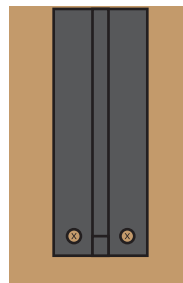

Figure 3
- 1.** Using the bracket's lower leg as a template, mark and drill four (4) pilot holes per bracket (see Figure 3).
- 2.** Without fully tightening the screws, attach each bracket to the wall using four (4) wood screws.
- 3.** Double Check the levelness across the brackets. Make any adjustments as necessary, then fully tighten all screws (see Figure 3).